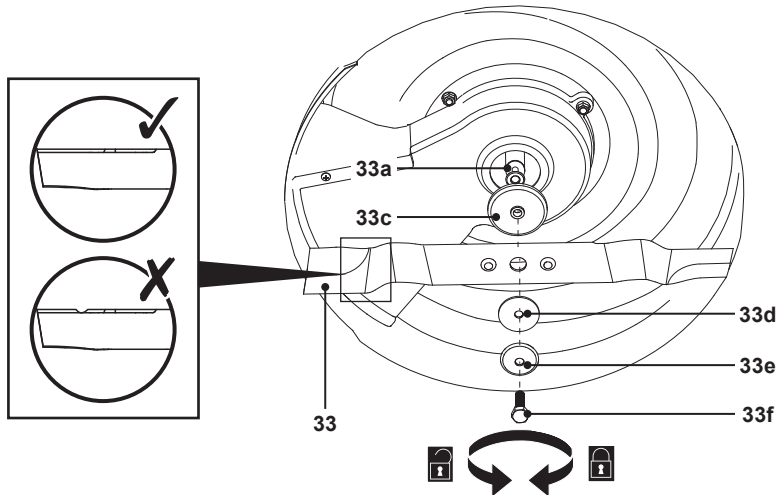

Fig. 29
1. Keep the underbody and cutting device (33) clean and free of debris. Remove clippings from the rear discharge chute (34).
2. Check all nuts and bolts periodically for tightness before operation. After prolonged use, especially in sandy soil conditions, the cutting device (33) will become worn and lose some of the original shape. The cutting efficiency will be reduced and the cutting device should be replaced.
3. Keep the cutting device (33) sharp to ensure a good cutting performance. Replace a worn or damaged cutting device with a new one of the same type or have it sharpened by a qualified specialist.
4. If jacking the product is not possible, tilt it to the right side so that the fuel tank cap (14) side is up. This helps to prevent fuel leakage and harder starting due to flooding of the carburetor (17).
5. Loosen the hex bolt (33f) anticlockwise using a suitable wrench (Size 17mm) and remove it together with the cup washer (33e), the locking flange (33d), the cutting device (33), the blade holder (33c) from the spindle (33a) (Fig. 29).
7. Replace the cutting device (33) with a new one of the same type. Check the status of the flange onto the blade holder (33c), attach the cutting device (33) properly, then attach the locking flange (33d) and ensure the two pins located into the groove of the flange of the blade holder (33c), fix the assembly with the cup washer (33e) and hex bolt (33f). Tighten the hex bolt (33f) clockwise with 45-60 Nm to ensure safe operation of your product (Fig. 29).